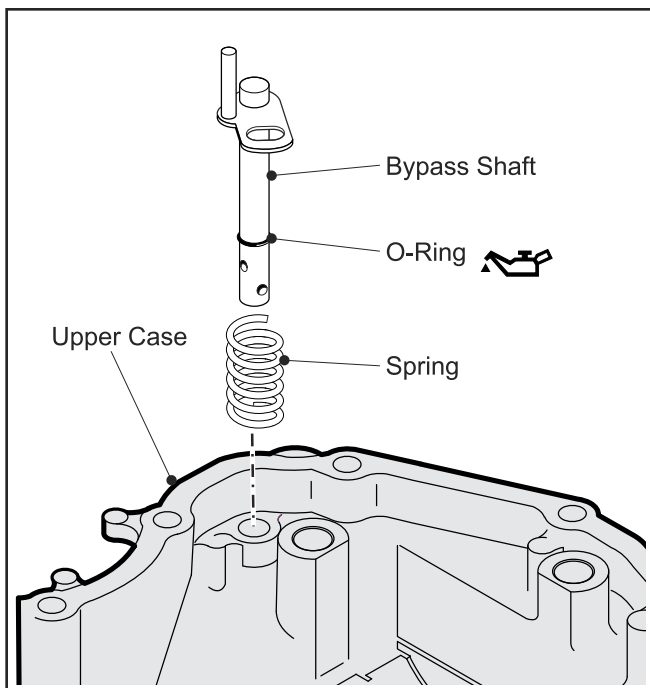

Fig. 1, Bypass Shaft Assembly
4. Install the Spring and Bypass Shaft into the hole on the Upper Case. (Fig. 1)